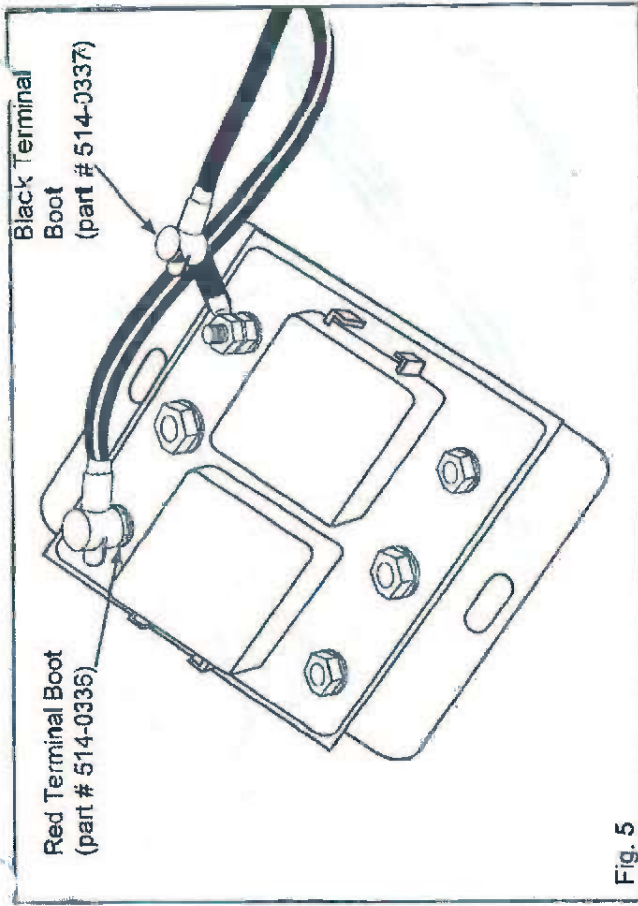

Fig. 5
- D. Attach Red to IN and Black to OUT on Solenoid (Fig. 5).